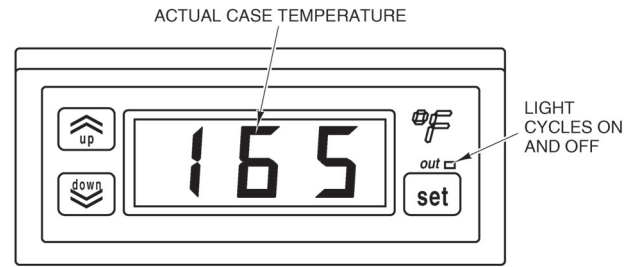

Fig. 8
2. Verify that the display case is at the proper temperature. Case temperature displays as shown in (Fig. 8).
- During normal operation, the heater output indicator light shows when the heaters cycle on and off (Fig. 8).